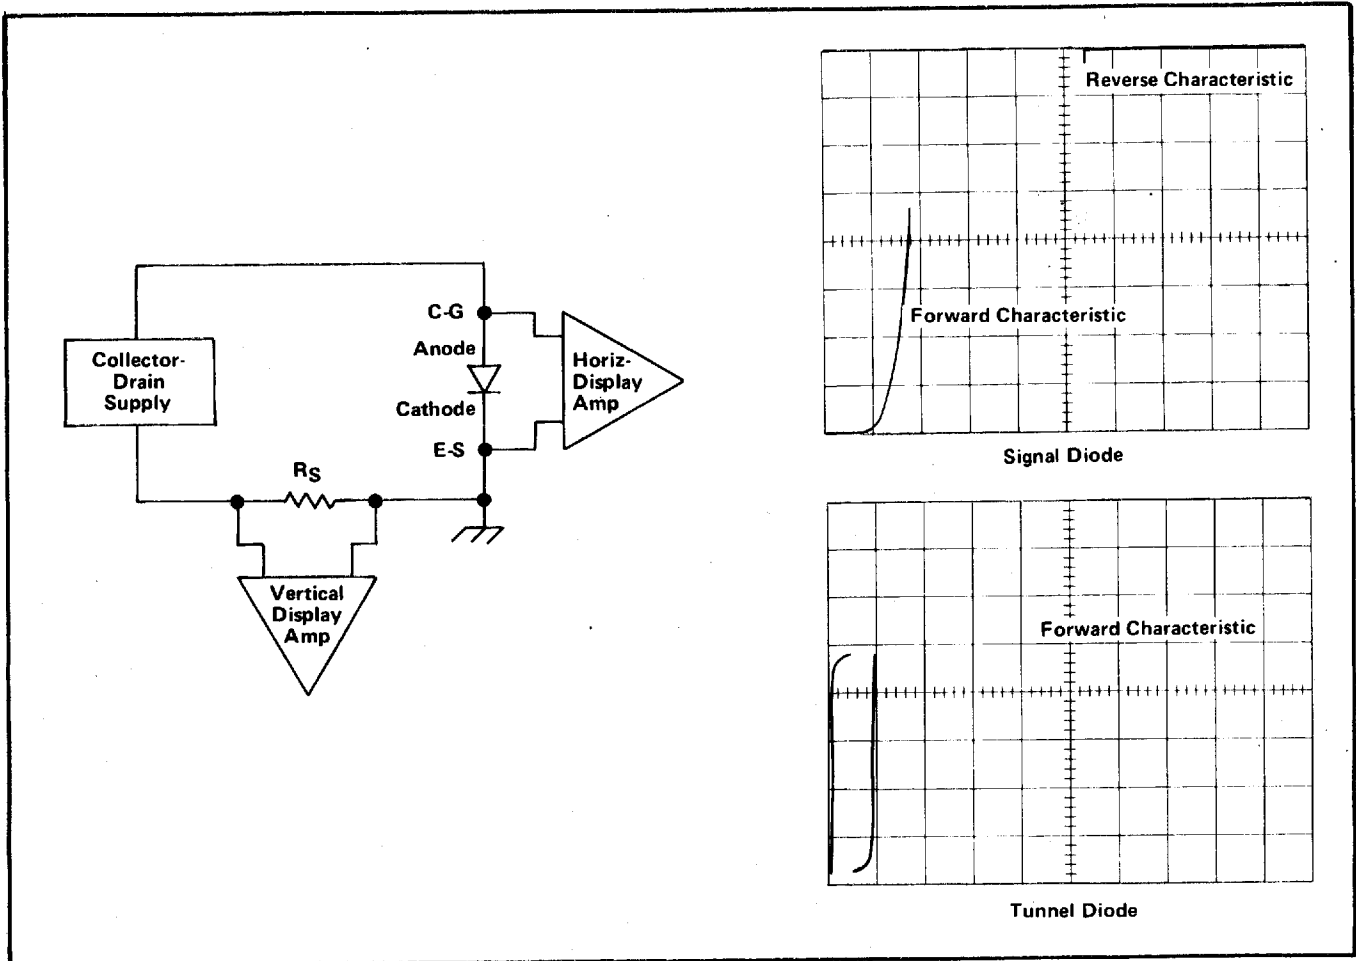

Fig. 1-3. Simplified diagram showing the connection of a diode to the 7CT1N and some typical displays.
**Installation.** Connect the diode to the device testing jacks as shown in Fig. 1-3. The device may be connected either directly to the jacks or through the transistor-FET adapter included with the 7CT1N. Special diode adapters are also available from Tektronix (see Table 1-4).
**Go, No-Go** Turn the COLLECTOR/DRAIN VOLTS control clockwise to obtain a display of the forward conduction characteristic of the diode. Fig. 1-3 shows typical displays for a rectifier type diode and a tunnel diode.